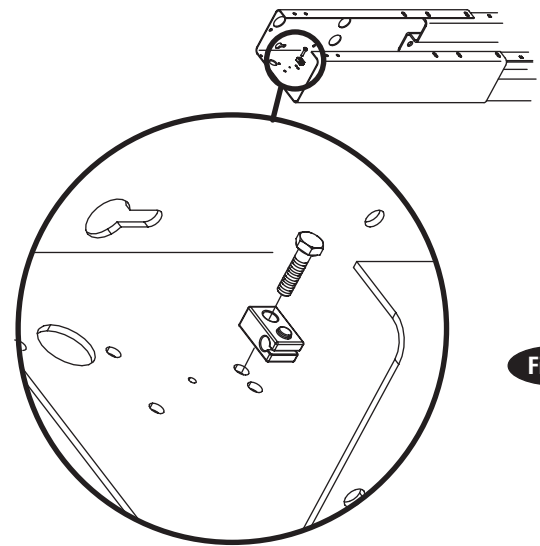

Fig. 2b
**4. Latch Cable Guides:** Install the latch cable conduit guide brackets to column extensions with (1) 1/4"-20NC x 1" HHCS and 1/4"-20NC Flanged Locknuts, Fig. 2. HHCS should go through hole nearest the edge as shown, Fig. 2b.